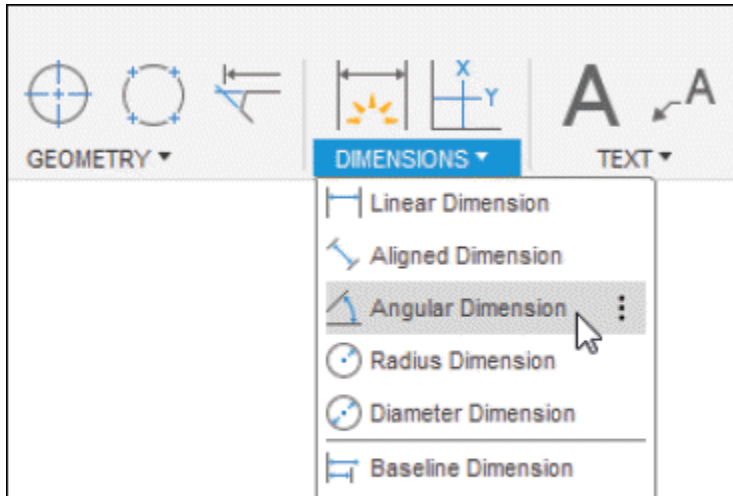

Figure-58. Angular Dimension tool
- Click on the **Angular Dimension** tool from the **DIMENSIONS** panel in the **Toolbar**; refer to Figure-58. You will be asked to select entities.